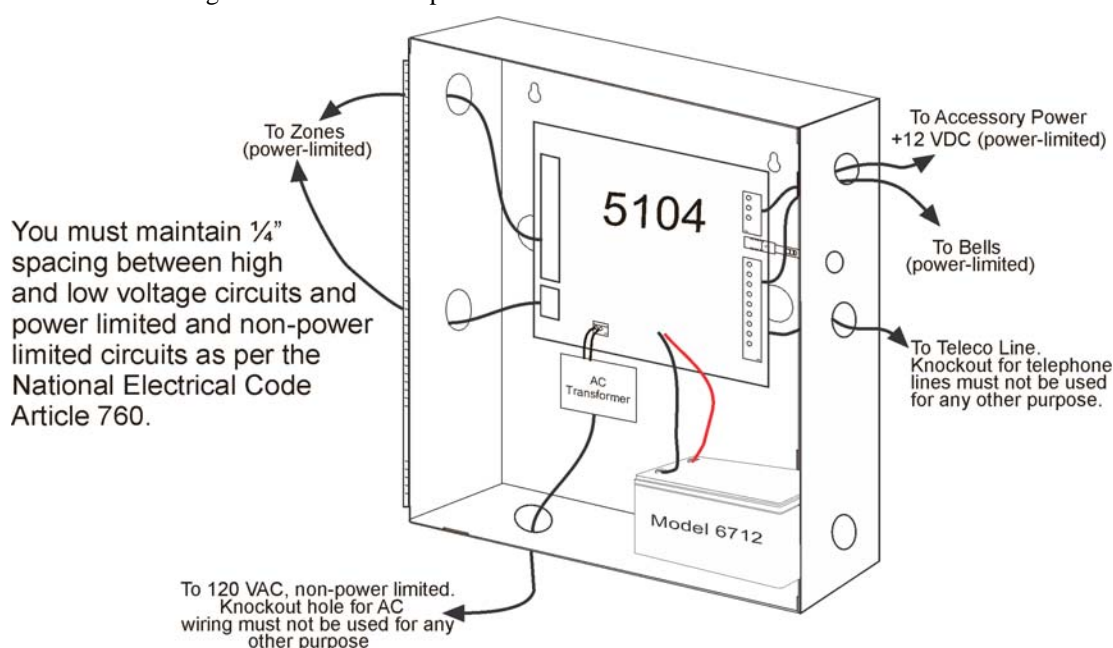

Figure 3-1 Wire Routing Example
- Route the wiring around the inside perimeter of the cabinet. It should not cross the circuit board where it could induce noise into the sensitive microelectronics or pick up unwanted RF noise from the high speed circuits. See Figure 3-1 for an example.